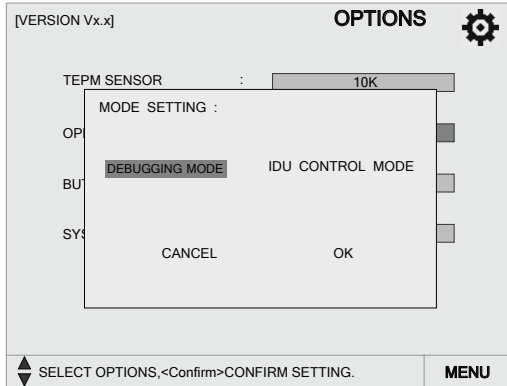

Fig.3-7 MODE SETTING Page
**OPERATING MODE:**(Fig.3-7) It is capable of setting the operation mode for either the whole system or the indoor unit through the debugger.